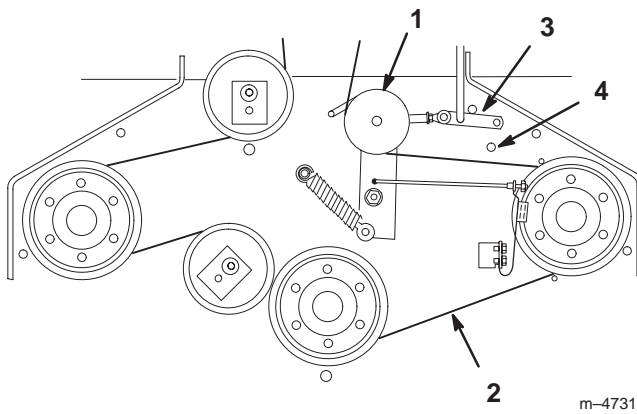
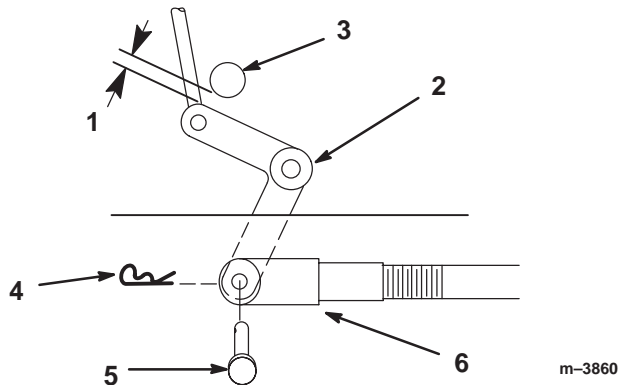

Figure 47
Figure 48
3. Remove mower belt (Fig. 47).
7. Install the mower belt (Fig. 47).
3. Remove idler pulley and then remove worn belt (Fig. 47).
Note: Proper belt tension is 10–15 lbf. (44–67 N) with the belt deflected a 1/2 in. (13mm) halfway between pulleys (Fig. 47).
- Engage PTO lever and check the clearance between the bellcrank and the transmission output shaft (Fig. 48). Space should be 1/16–1/8 in. (2mm–3mm).
- Remove hairpin cotter and clevis pin from bellcrank. Rotate clevis clockwise on rod to increase or counterclockwise to decrease clearance (Fig. 48).
- Disengage the PTO. If the assist arm does not contact the front stop on the mower deck (Fig. 47), readjust the clevis to bring the bellcrank closer to the transmission output shaft (Fig. 48).